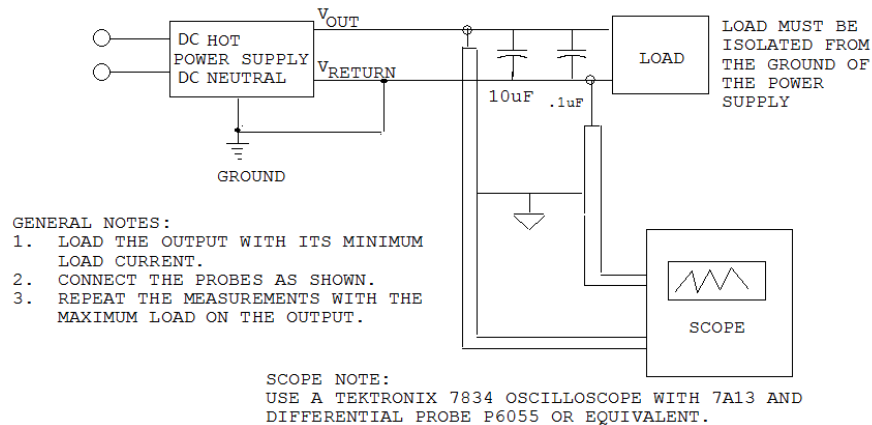

Figure 7. Differential Noise Test Setup
The test set-up shall be following *Figure 7*.
**NOTES:** Load must be isolated from the safety ground to Figure 7.